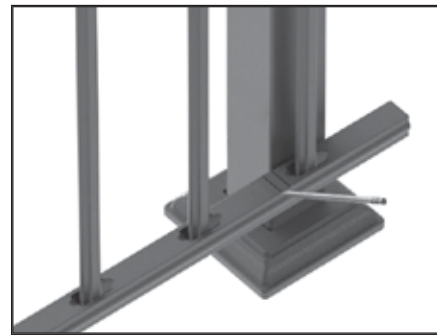

Figure 2
- Mark rail flush with post (*Figure 2*).
- From marked line, mark additional parallel line 1/4" from first line, allowing for bracket clearance (*Figure 2*).